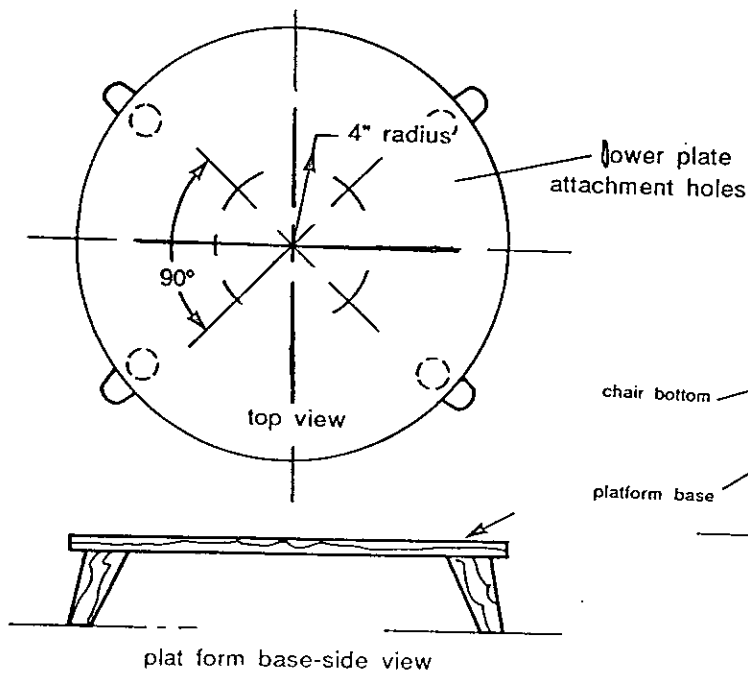

Fig. 5
2. Locate center lines on platform base as shown in fig. 5. Locate holes 4" from center on 90° diagonals. Drill pilot holes for either 1/4" lag screws or machine bolts.